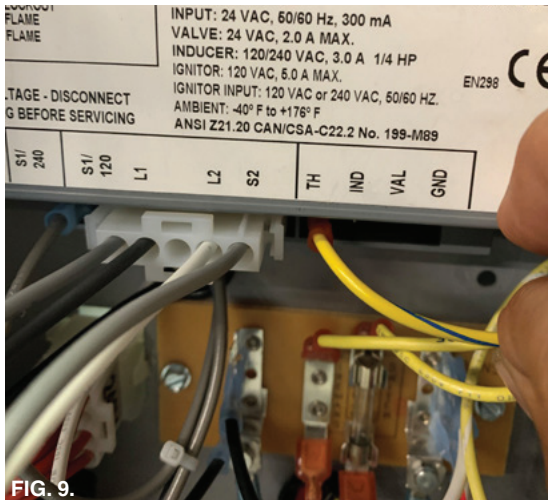

FIG. 9.
8. Connect the Blue/Yellow wire to TH ¼" tab at ICM as shown in Fig. 9.